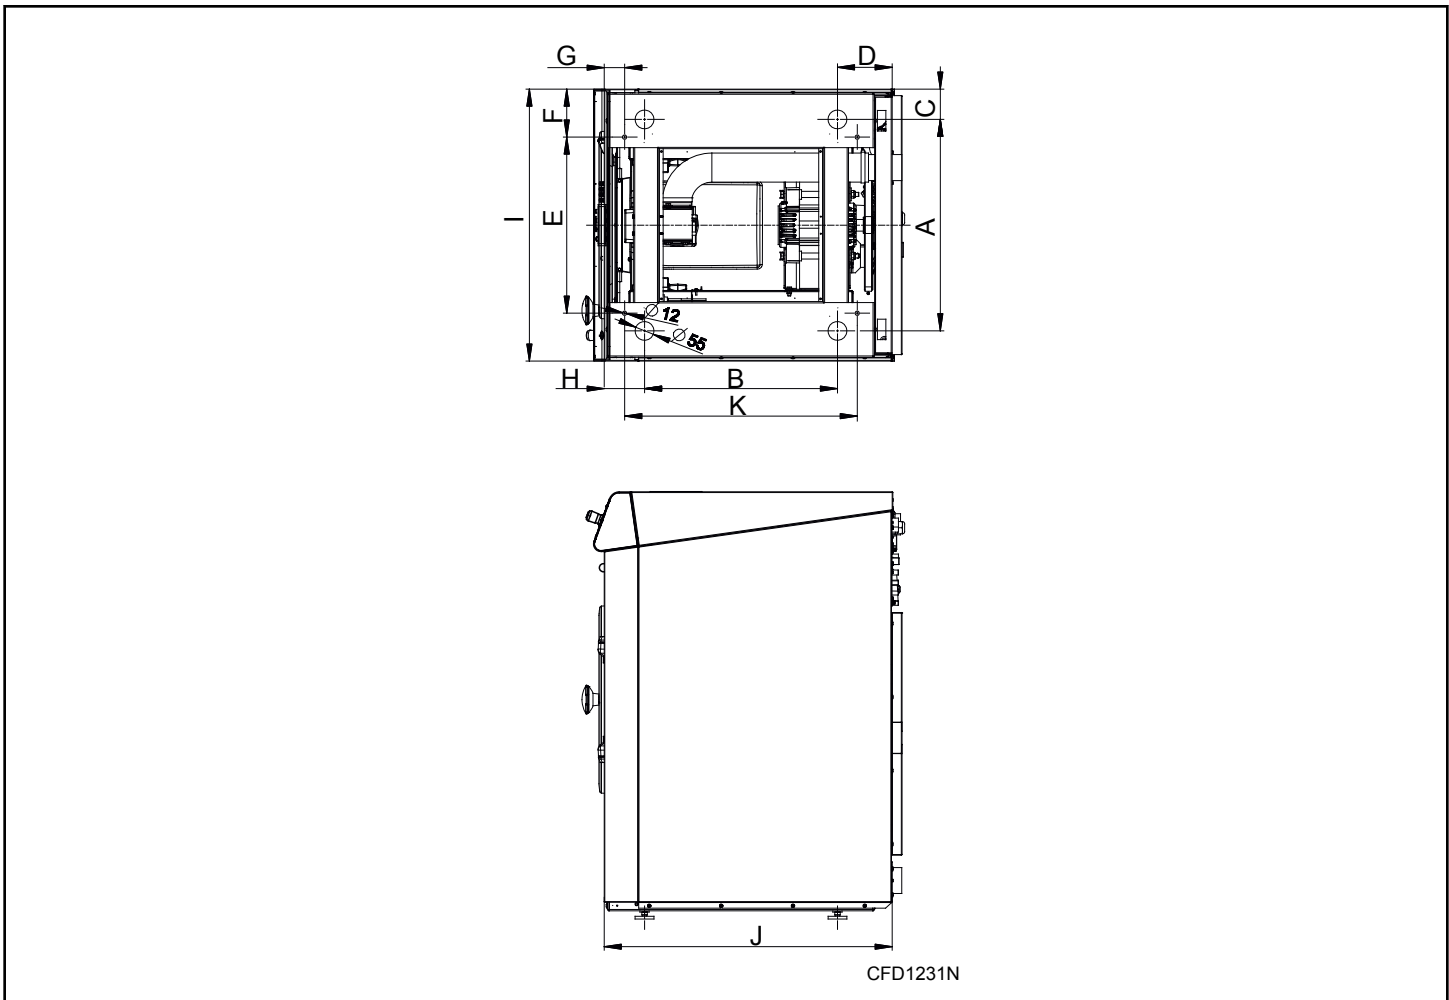

Figure 9
1. Drill 2 holes for the anchoring bolts, refer to *Figure 9* . Hole diameter in machine's base is 0.47 in. [12 mm] .